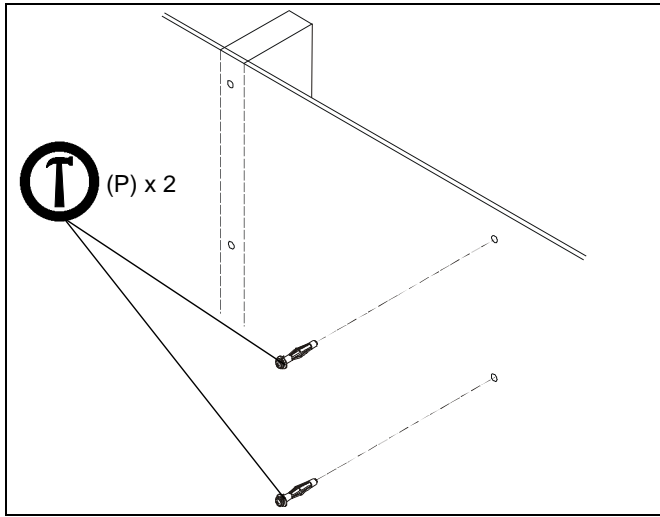
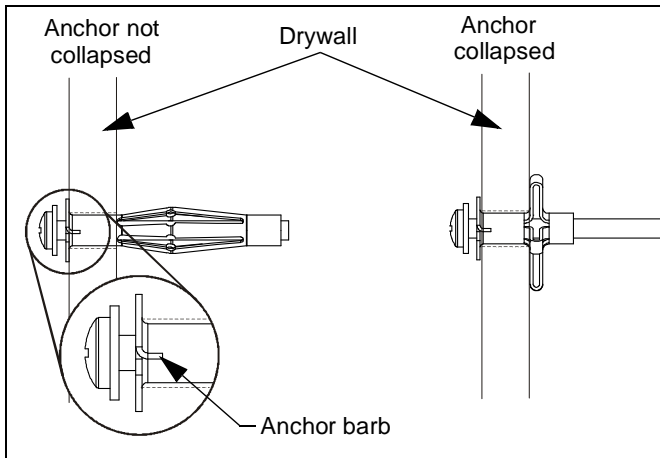

Figure 4
Figure 5
10. Gently tap anchors (P) into anchor holes. Anchor bars should be fully engaged in drywall. (See Figure 4) and (See Figure 5)
11. Using Phillips screwdriver, tighten anchor screw until anchor has fully collapsed against back side of drywall. (See Figure 5)